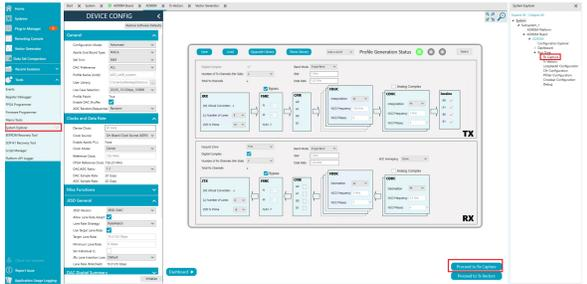

Figure 29. Rx Capture Selection
1. Click **Proceed to Rx Capture**. Alternatively, enable **System Explorer** from the tools tab, expand the **Run Time** section, select **Rx Capture**. See Figure 29